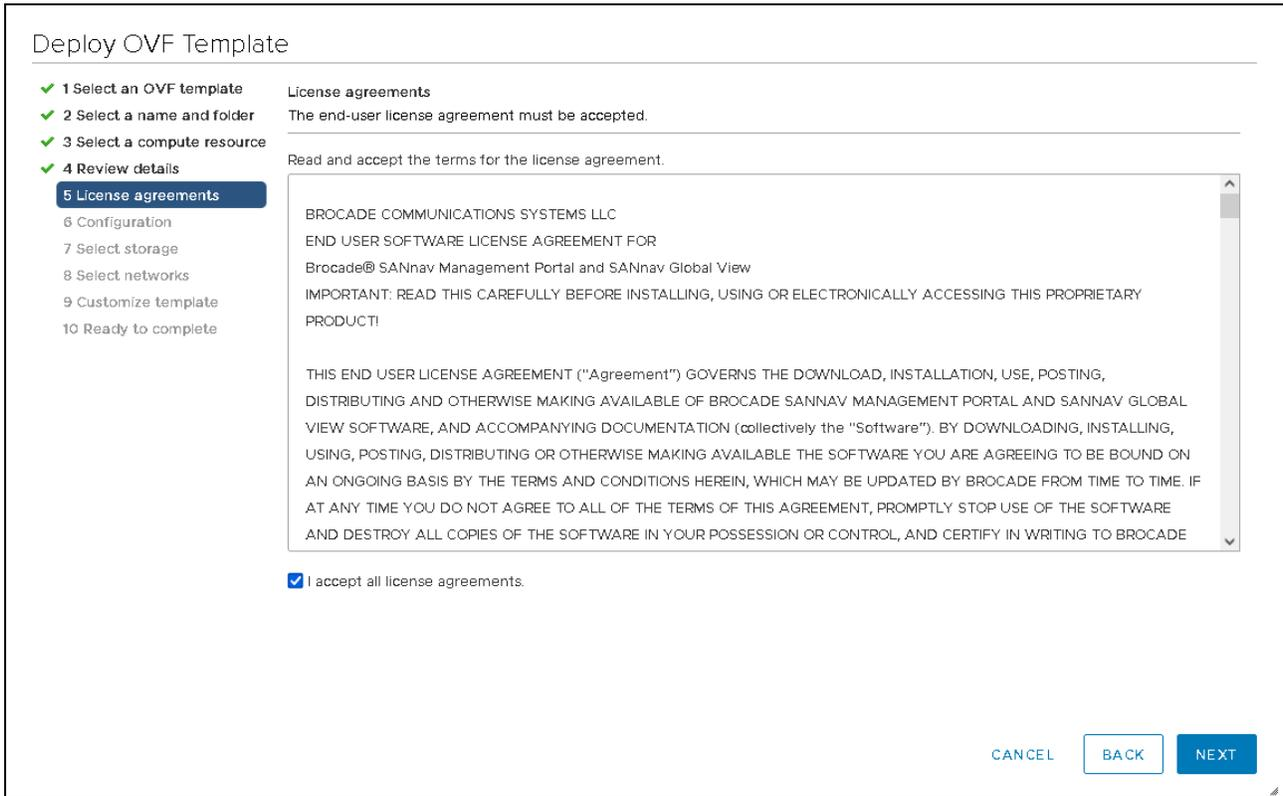

Figure 3-10 Accepting the license agreement
7. For the license agreements, select the **I accept all license agreements** checkbox and click **NEXT**, as shown in Figure 3-10.